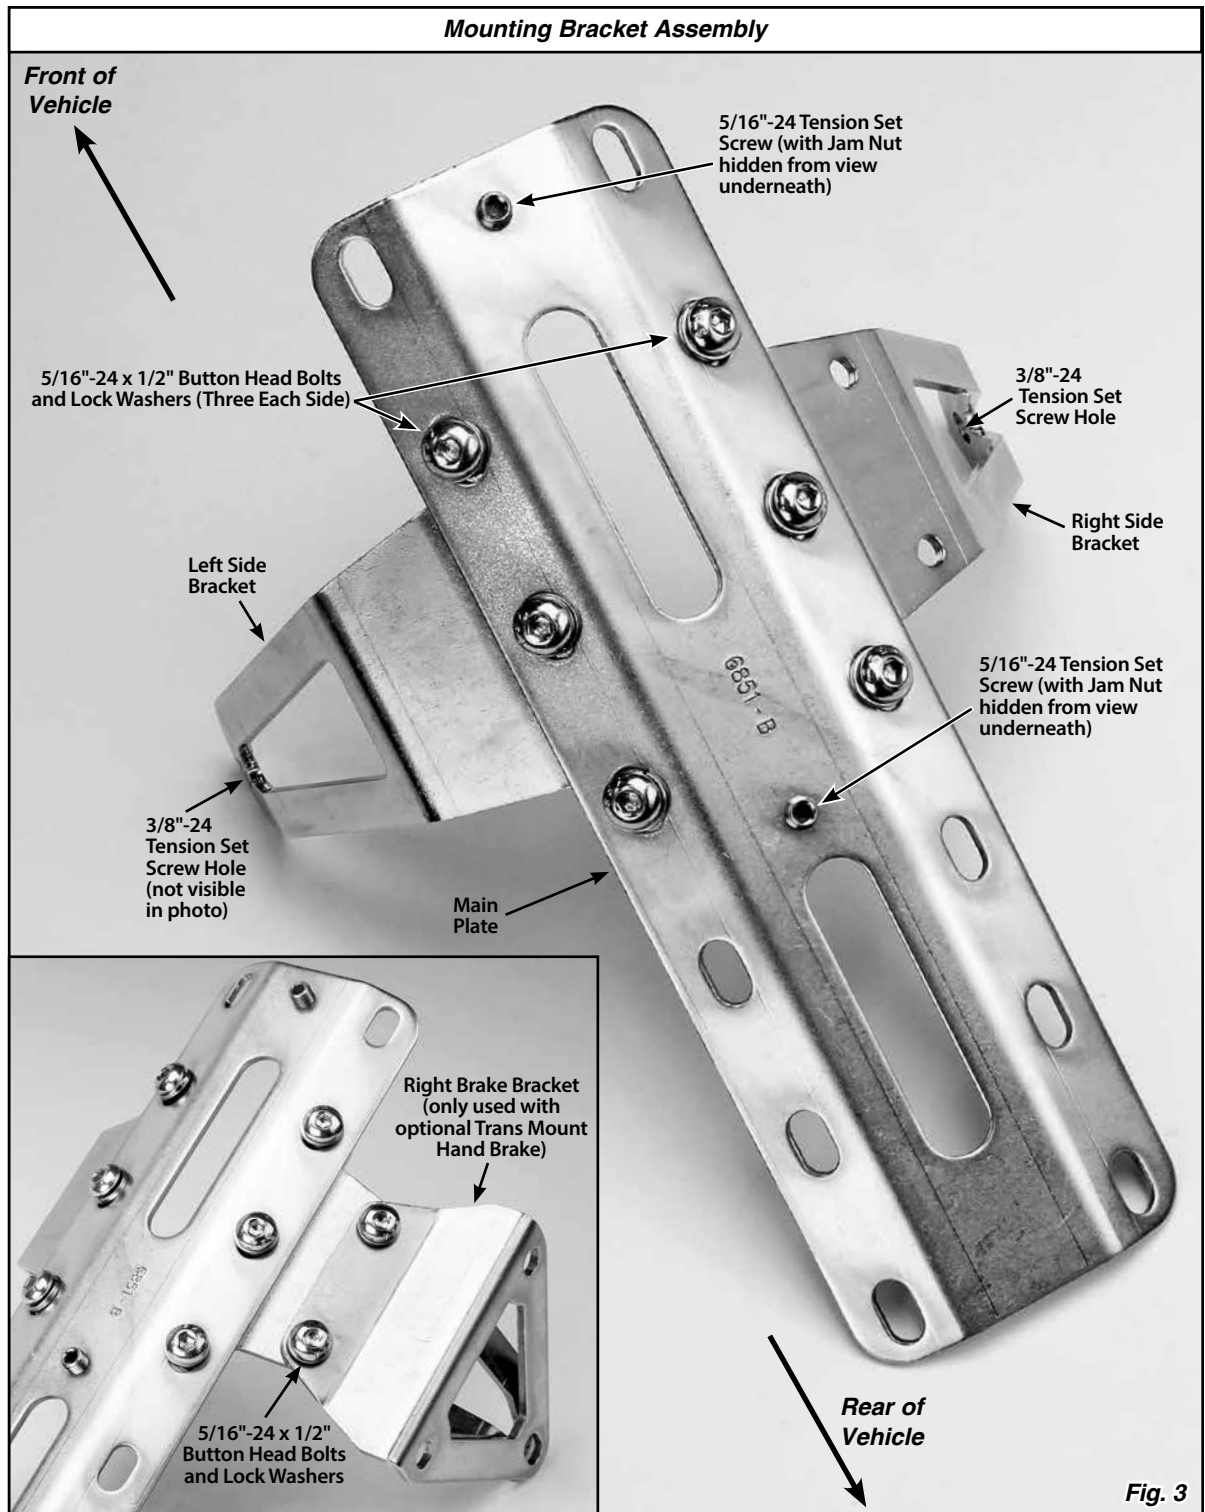

Fig. 3
Step 4: The left side bracket and right side bracket bolt directly to the main plate. Attach the side brackets to the underside of the main plate as shown in **Fig. 3**, using three 5/16"-24 x 1/2" button head bolts and lock washers on each side. **DO NOT TIGHTEN AT THIS TIME.**
NOTE: An additional bracket (the right brake bracket) is included with the Shifter. The right brake bracket will only be used if you are installing a Trans Mount Hand Brake (available separately, not included). If you are installing a Trans Mount Hand Brake, use the supplied 5/16"-24 x 1/2" button head bolts and lock washers to mount the right brake bracket onto the outside of the right side bracket. **Fig. 3 inset**